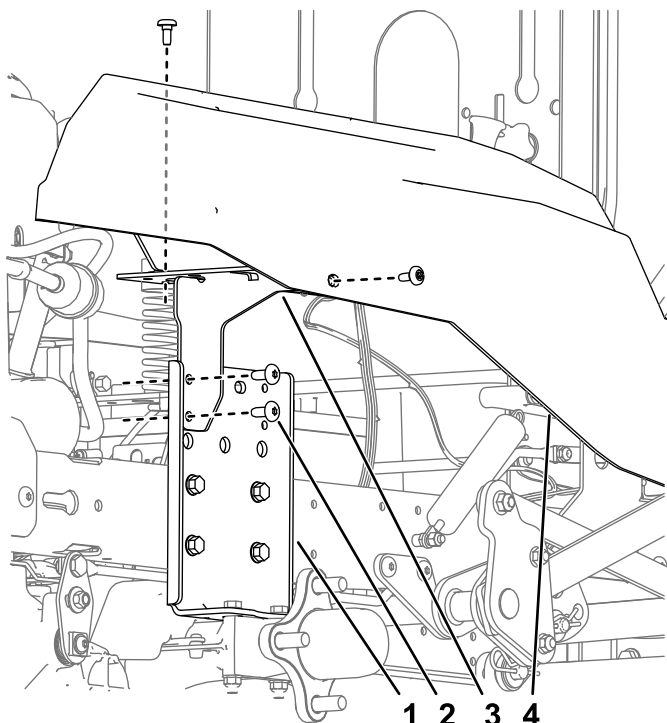

Figure 3
12. Remove the pod brackets from the machine (Figure 3).